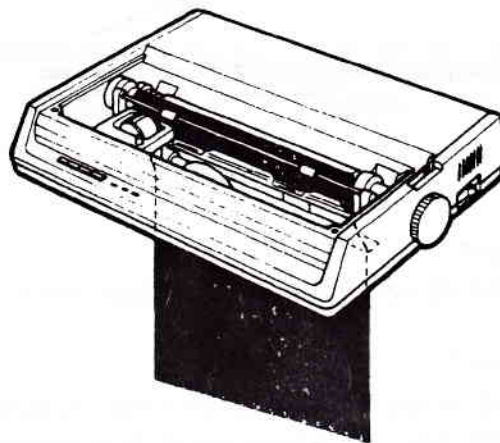

Figure 27, Insert paper
5. Take the first sheet of the paper and insert it in the bottom of the printer. Place the first sprocket holes in the paper over two aligned sprocket pins and turn the platen knob until one inch of paper appears above the column indicator. (see figure 27).